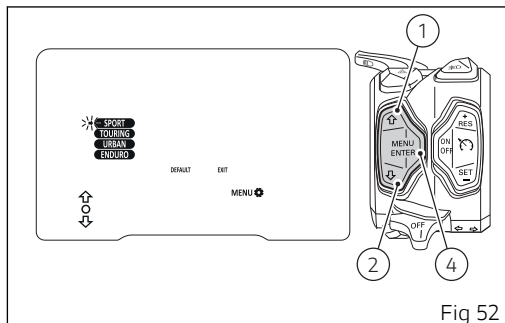

Fig 52
After entering the function (Fig 52) the display shows the four available riding modes "SPORT", "TOURING", "URBAN", "ENDURO", with a flashing arrow pointing at the "SPORT" riding mode. You can use buttons (1), (2) and (4) to do the following:
- use buttons (1) and (2) to select the riding mode to customize, then press button (4) to enter the customization of the selected riding mode;
- use buttons (1) and (2) to select "EXIT" (flashing frame), then press button (4) to go back to previous page;
- use buttons (1) and (2) to select "DEFAULT" (flashing frame), then press button (4) for 2 seconds to restore default values for all four Riding Modes (ALL DEFAULT).